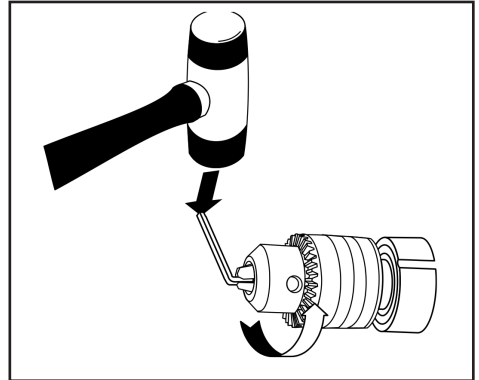

Fig.10
7. Insert the hex key into the chuck and tighten jaws of chuck securely (Fig. 10). Tap the hex key sharply with a mallet in a COUNTER-CLOCKWISE direction. This will loosen the chuck on the spindle. The chuck can now be unscrewed and removed from the spindle by hand.